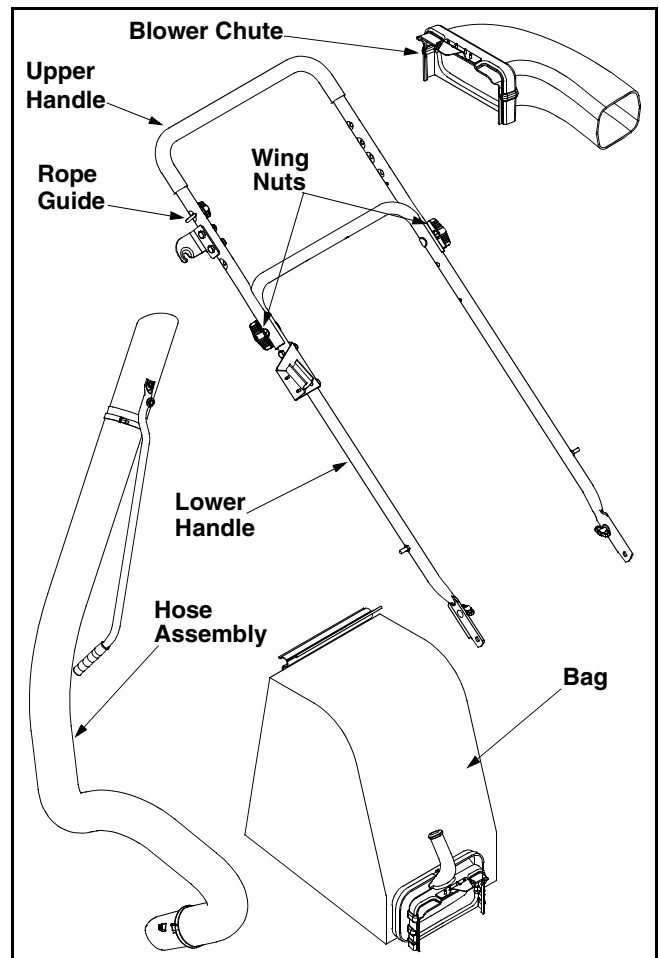

Figure 1
Loose Parts In Carton (See Figure 1)
- Secure the two handles by tightening the wing nuts (carriage bolts must be seated properly into the handle). See Figure 1